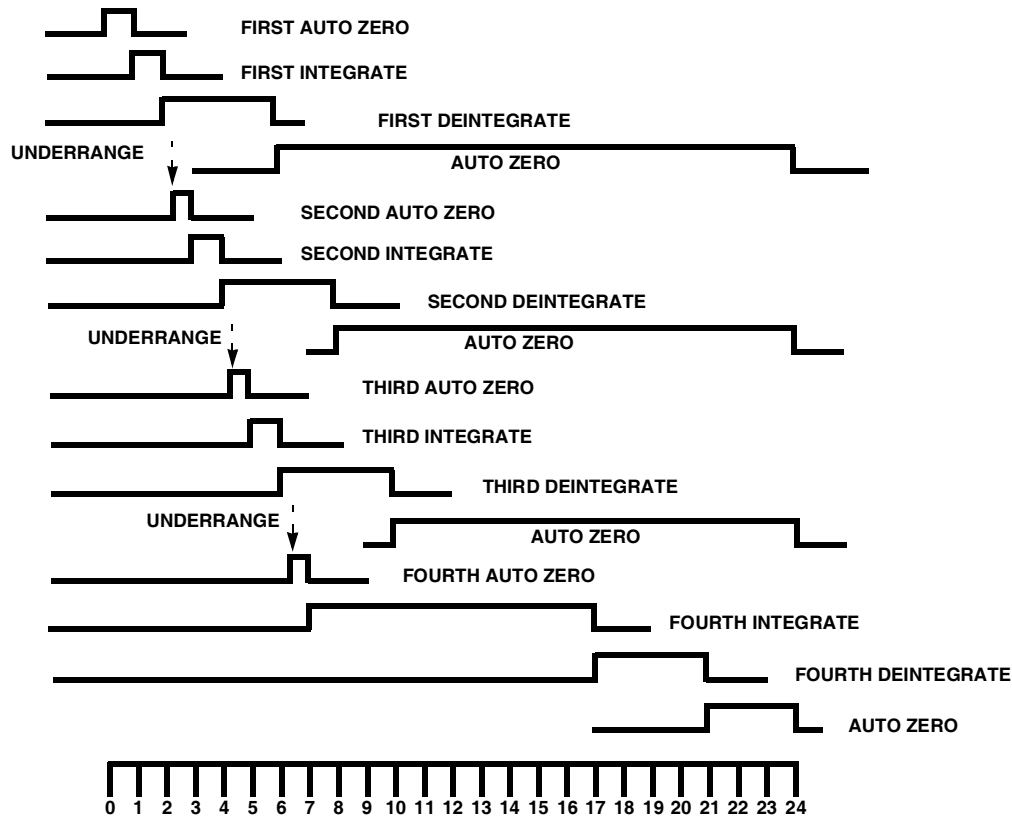
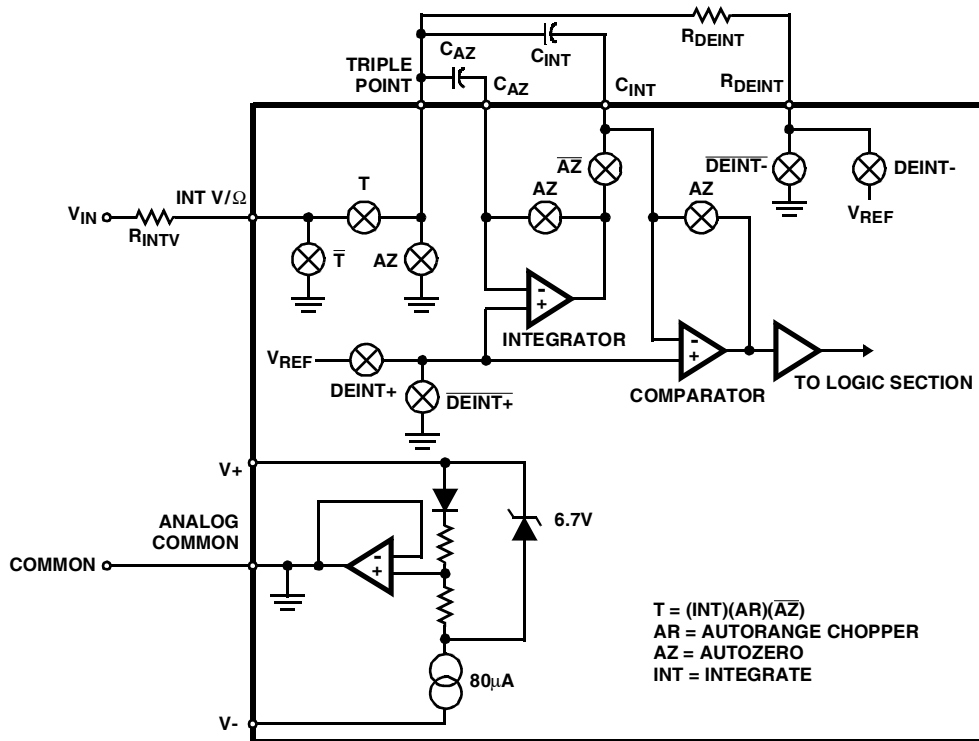

FIGURE 1. LINE FREQUENCY CYCLES (1 CYCLE = 1000 INTERNAL CLOCK PULSES = 2000 OSCILLATION CYCLES)
FIGURE 3. DETAILED CIRCUIT DIAGRAM FOR DC VOLTAGE MEASUREMENT
Only those portions of the analog section which are used during DC voltage measurements are shown in Figure 3. As shown in the timing diagram (Figure 1), each measurement starts with an autozero (AZ) phase. During this phase, the integrator and comparator are configured as unity gain buffers and their non-